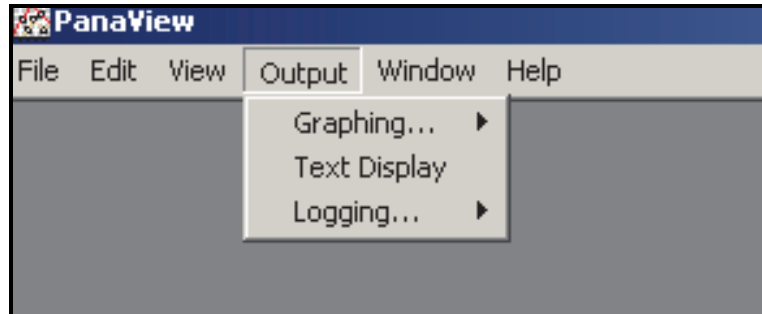

Figure 15 The Output Menu
1. In PanaView, pull down the *Output* menu, as shown in Figure 15, and click on the *Text Display* option.